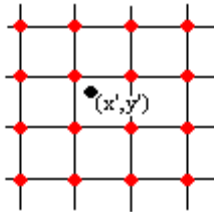

Figure 4 - Cubic Convolution
Cubic convolution (CC) resampling uses the pixel values of the 16 nearest neighbors. A set of weights is also used so that the closest neighbors have more weight in the overall pixel value (see Figure 4).